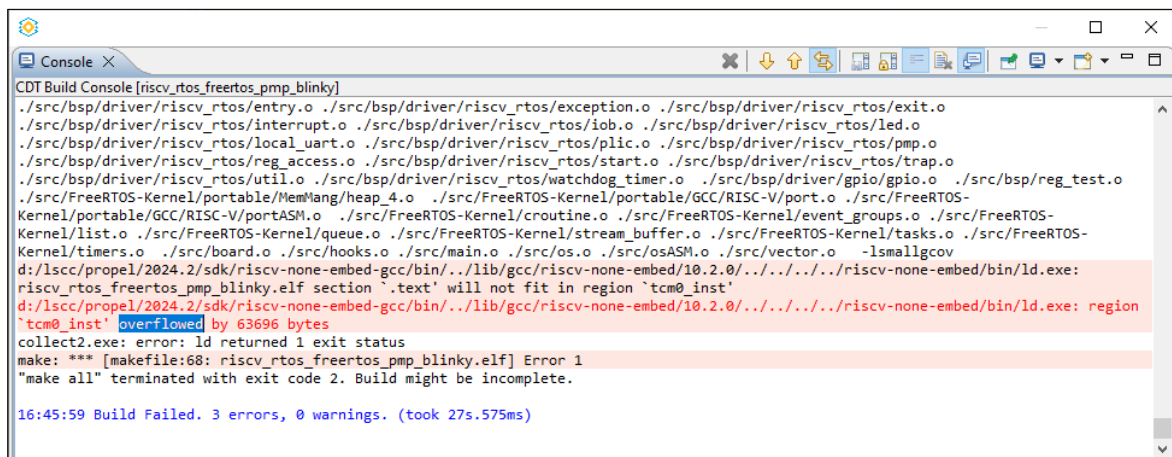
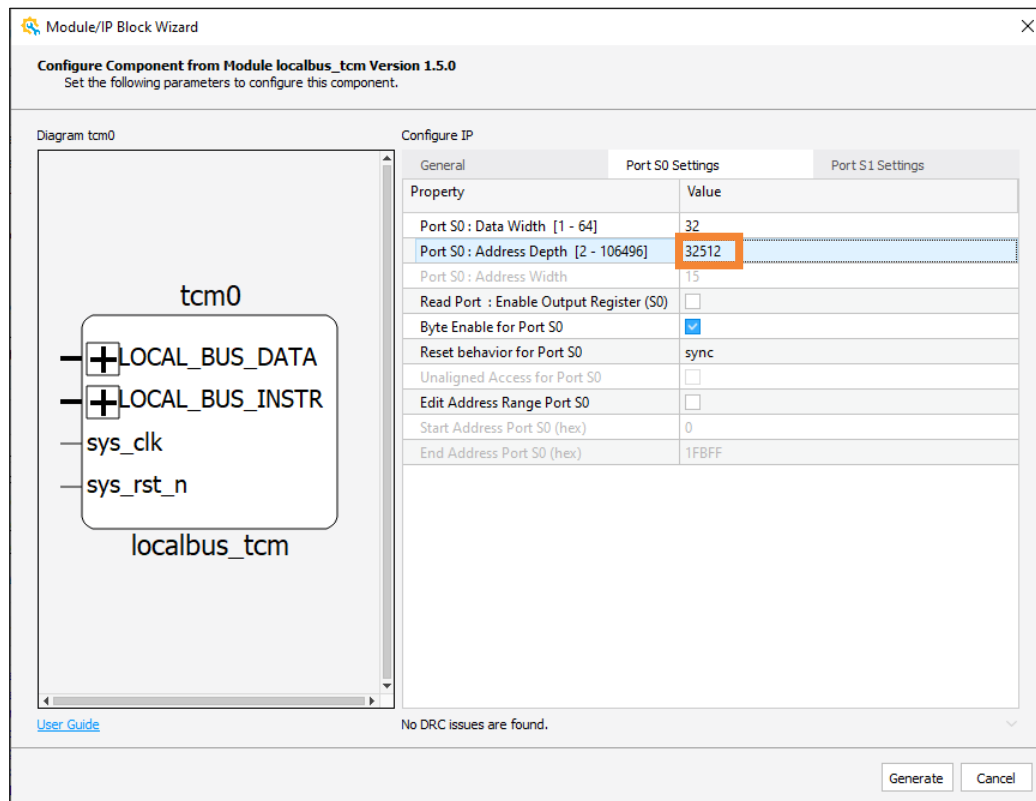
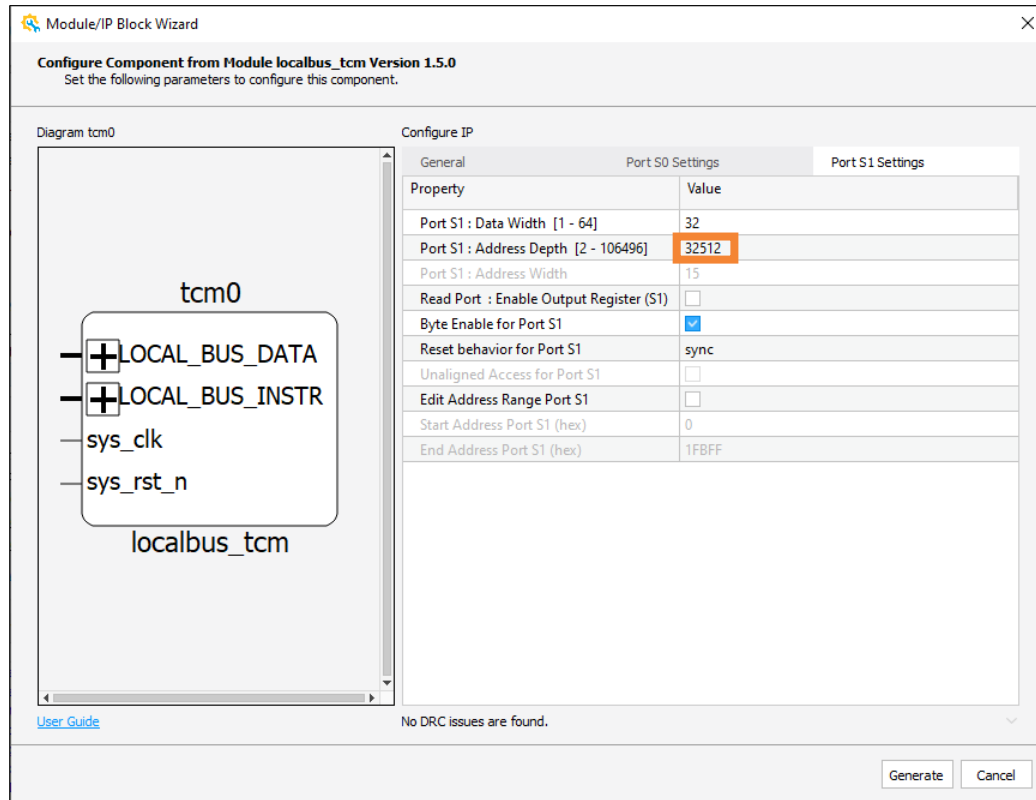

Figure A.6. Build Project Console 1
Figure A.11. modify tcm0_inst Port S0 Address Depth Settings 3
Figure A.12. modify tcm0_inst Port S1 Address Depth Settings 3
If you add too many code to your C project, it might cause the build error shown in the Figure A.6 error log.
The error shown in Figure A.6 means the additional space size needed for this project is 63696 bytes, which is 0xF8D0 in hexadecimal. Therefore, the total space size needed is 0x1F8D0 bytes.
3. Set the Port S0 and Port S1 address depth to an adequate value. In the error shown in Figure A.6, we need 0x1F8D0 bytes, which needs to be 1k aligned. Consequently, the minimum size needed is 0x1FC00 bytes, equivalent to 0x7F00 DWORDs or 32512 in decimal. Refer to Figure A.11 and Figure A.12 for the settings described in this step. click **Generate**.